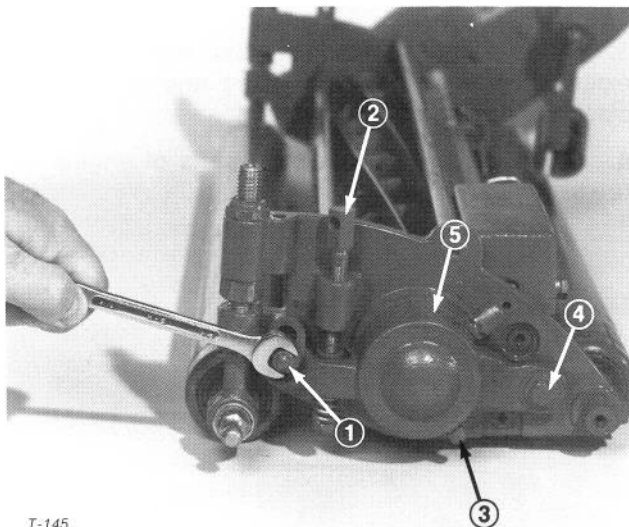

Figure 42
2. Remove locknut, reel adjustment screw, allen head set screw and capscrew from left reel bracket and remove reel bracket from left side plate (Fig. 42).